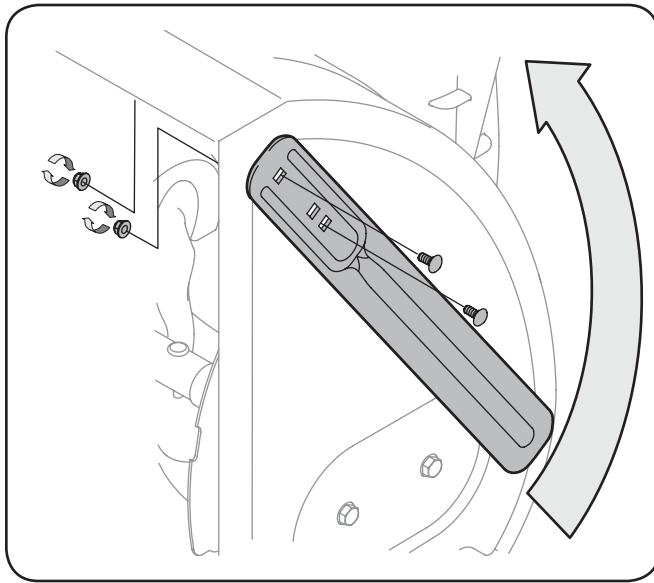

Figure 3-8
1. Remove the four flange nuts (two on each side) and carriage bolts. Place drift cutter in upright position and resecure. See Fig. 3-8.